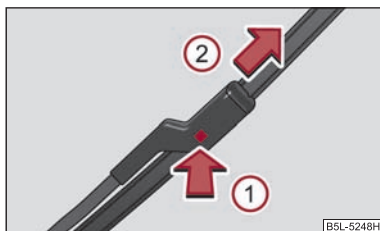

Fig. 51 Wiper blade for the windscreen wiper
- Press the locking button ① ⇒ fig. 51, in order to unlock the wiper blade and pull off in the direction of arrow ②.